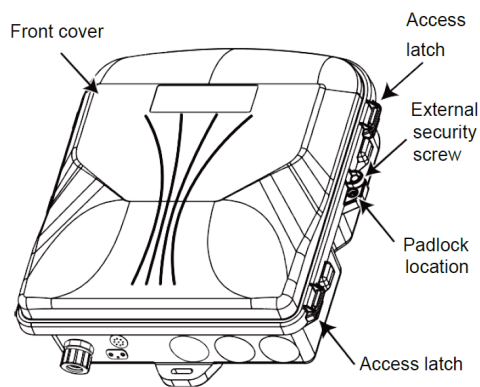

Figure 5 ONT Fiber Port
*Notes: The unit should be mounted on the wall with the DC connectors facing sideways. See Figure 5. Make sure that there is enough space at the rear to insert/extract the PSMs.*
| Step 2 | Depress the access latches on the side of the unit and open the front cover (Figure 5).              |